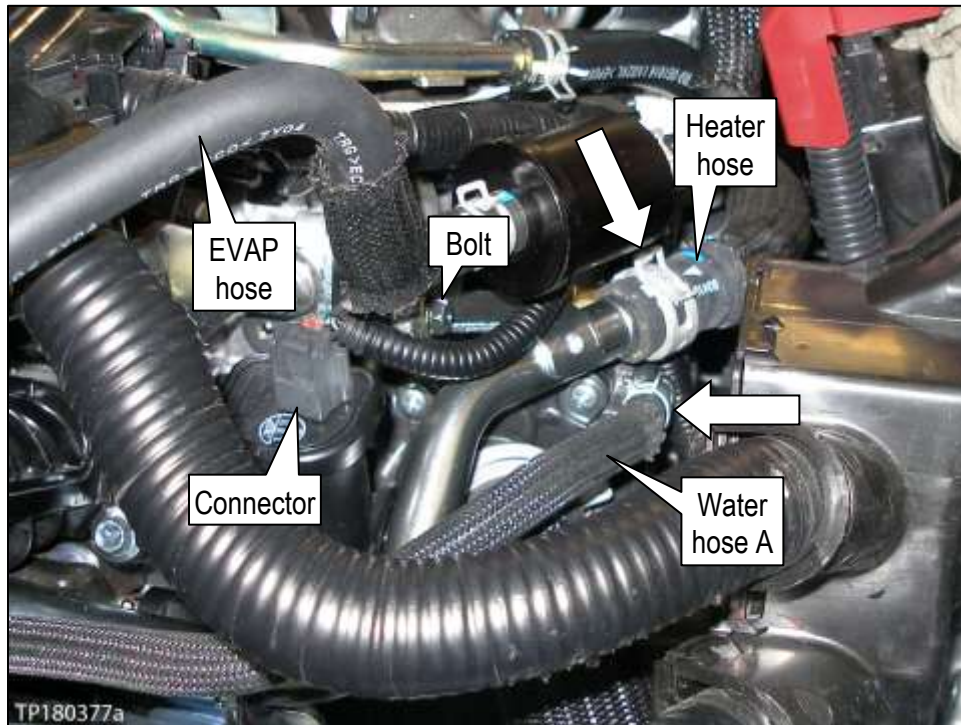

Figure 72
- See white arrows in Figure 72.